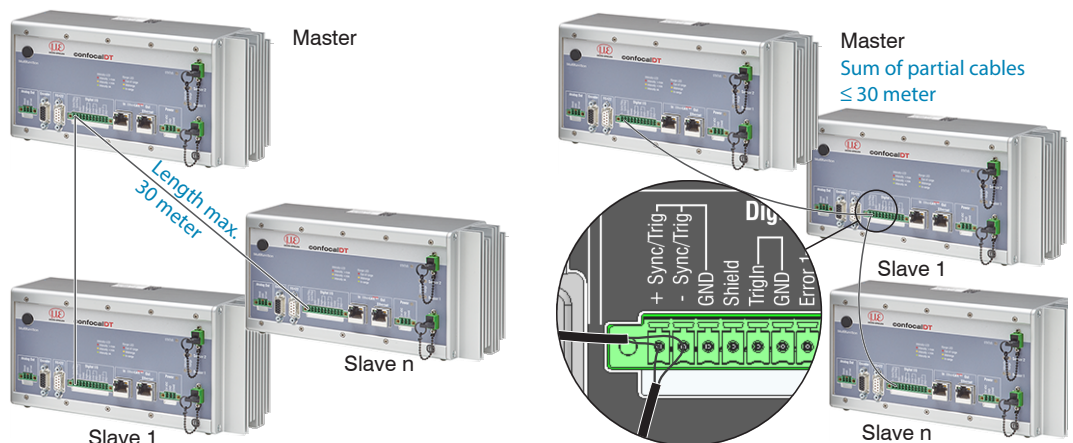

Fig. 17 Synchronization of more controllers, star synchronization (left), cascaded (right)
- ➡ Connect the pins +Sync/Trig and -Sync/Trig of controller 1 (master) in star configuration with the pins +Sync/Trig and -Sync/Trig of controller 2 (slave) to controller n, in order to synchronize two or more controllers, see Fig. 17.
- ➡ Connect the pins +Sync/Trig and -Sync/Trig of controller 1 (master) with the pins +Sync/Trig and -Sync/Trig of controller 2 (slave 1). Connect the pins of downstream controllers in order to synchronize two or more controllers, see Fig. 17.